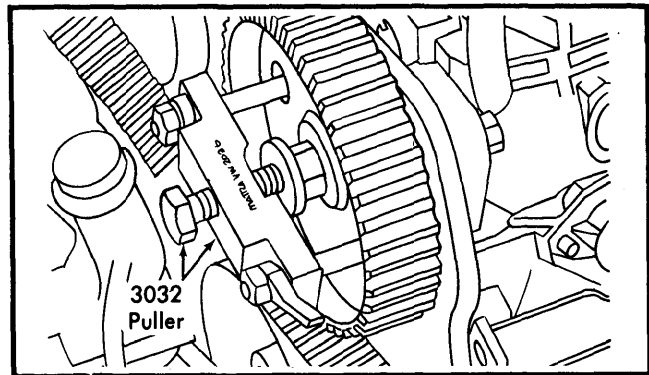

Fig. 10 Fuel Injection Pump Gear Removal (Audi Shown)
5) Attach puller (VW203b for Volkswagen; 3032 for Audi) to injection pump sprocket and apply light tension to puller. See Fig. 10. Tap lightly on puller spindle head until sprocket loosens from pump shaft.